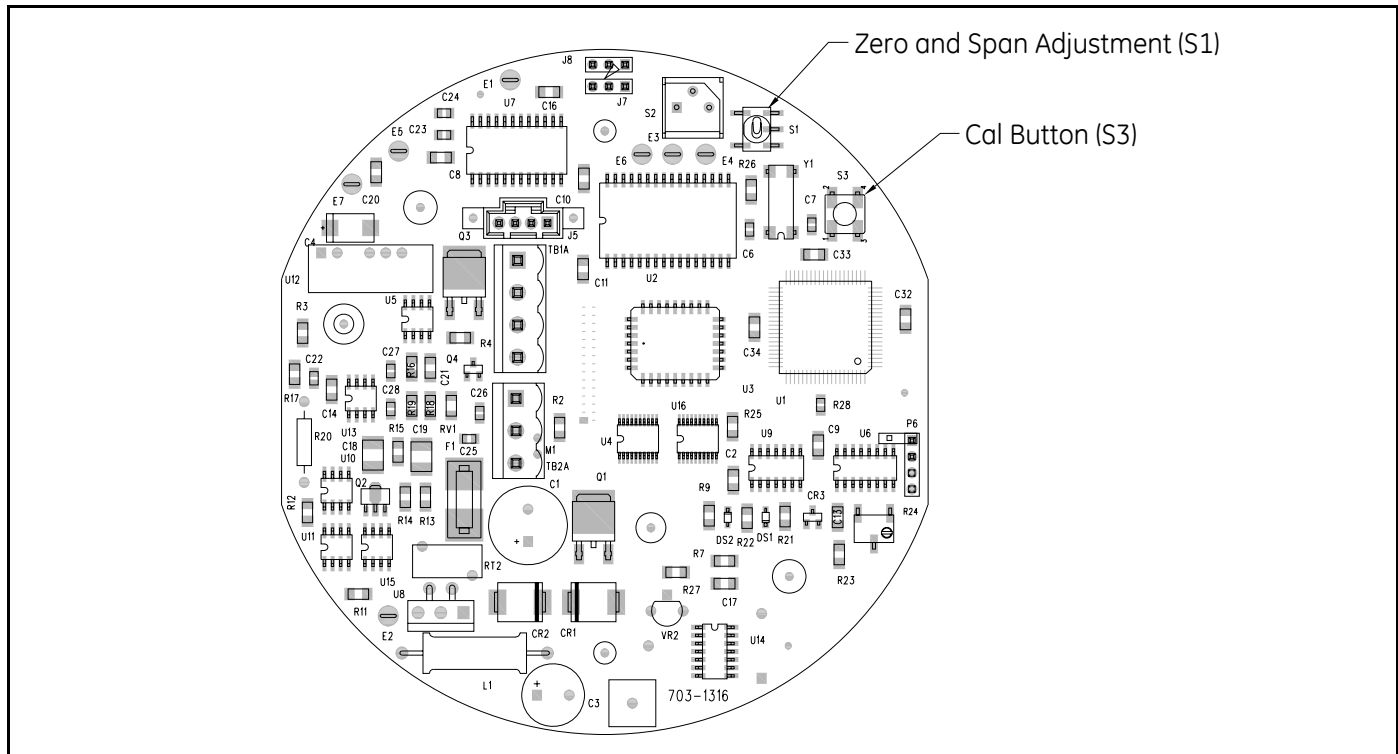

Figure 54: Calibration Switch Locations
3. The XMTC printed circuit board (PCB) is located directly below the cover. Locate the switches **S1** (zero and span adjustment) and **S3** (calibration button) using *Figure 54* below as a guide.